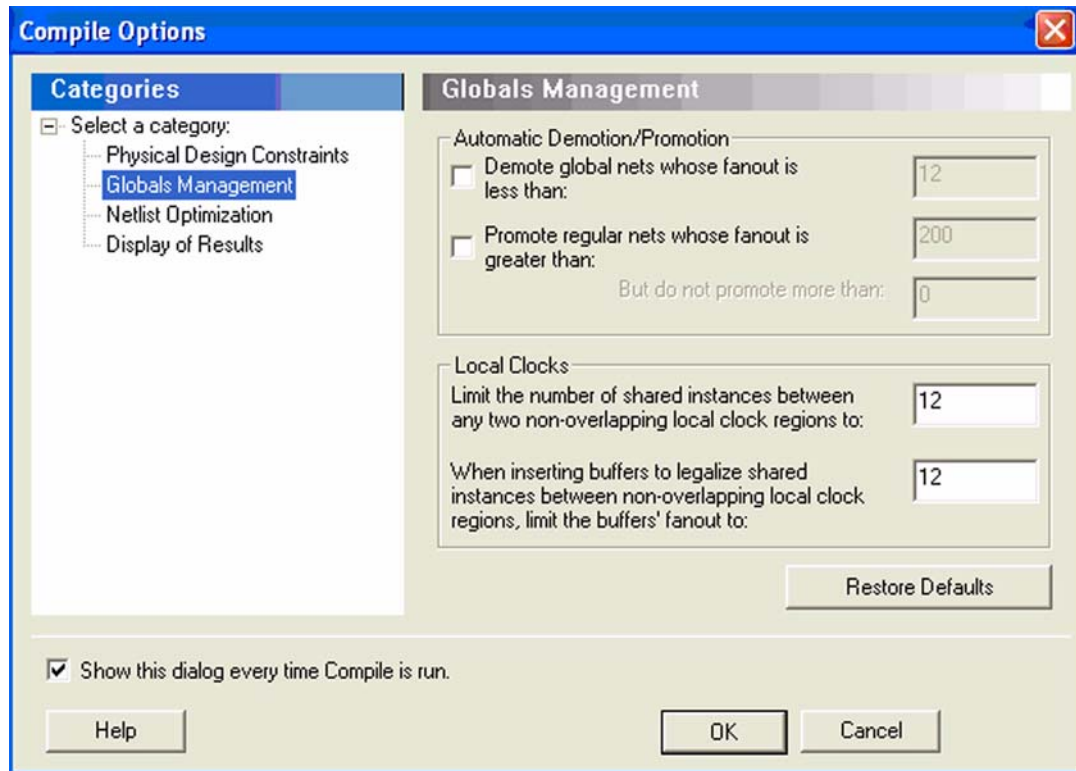

Figure 2-12 • Globals Management GUI in Designer
2. If some signals have a very high fanout and are candidates for global promotion, promote those signals to global using the compile options or PDC commands. Figure 2-12 on page 2-17 shows the Globals Management section of the compile options. Select **Promote regular nets whose fanout is greater than** and enter a reasonable value for fanouts.